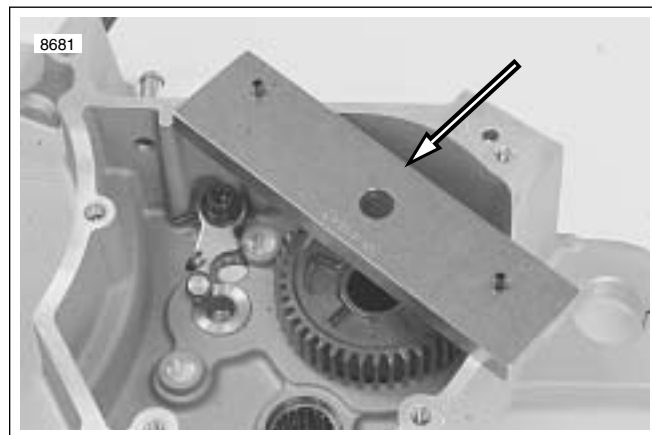
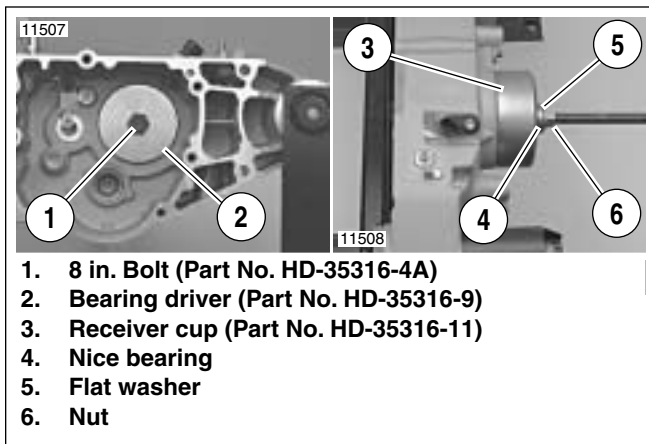

Figure 6-67. Bearing Remover Cross Plate Mounting (Part No. B-45847)
Figure 6-69. Removing Main Drive Gear Bearing (Typical)
4. See Figure 6-67. Place cross plate on crankcase as shown.
2. See Figure 6-67. From inside crankcase, position BEARING DRIVER (Part No. HD-035316-9) (2) over main drive gear bearing.
3. Insert 8 IN. BOLT (Part No. HD-35316-4A) (1) through bearing driver and bearing.
4. See Figure 6-69. At outside of case, slide RECEIVER CUP (Part No. HD-35316-11) (3) onto bolt and over bearing. Install NICE BEARING (4), FLAT WASHER (5) and NUT (6) over end of bolt.